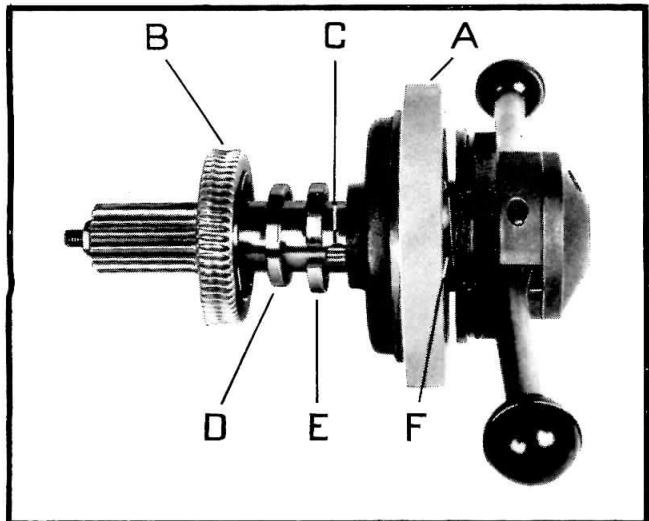

FIG. 10
2. Loosen the 4 screws which hold the flange (A) Fig. 10 of the power feed. CAUTION: If the spring is not damaged the flange will turn out sharply due to the tension of the spring.
4. Remove the helical wheel (B) towards the pinion and remove the 2 engaging pins (C), the ring (D) and the 2 half-moons (E).
5. Remove the flange (A) carefully (the broken spring may jump out at any time).
6. Remove the quill return spring (F). Note that the inside limit of the quill return spring is fixed to the collar with a screw which has to be removed.